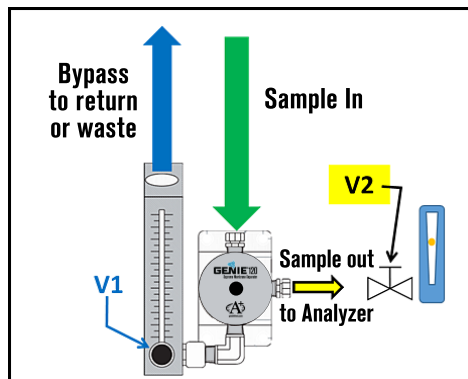

Figure 1
- ▶ The **Genie[®]** ports are labeled **inlet**, **outlet**, and **bypass**. Connect tubing from the sample stream to the **Genie[®] inlet port**. The **bypass port** must be facing downward for the **Genie[®]** to function properly (Figure 1).
- ▶ A means of indicating and adjusting outlet flow, such as a rotameter with a throttling valve (e.g., V2 in Figure 1), is usually required and is typically part of the analyzer package.
- ▶ A flow restrictor, typically a throttling valve (e.g., V1 in Figure 1), is usually required downstream of the bypass port to force flow through the membrane and outlet port, except in negative gauge pressure applications where gravity is the only motive for draining liquid from the Genie. A rotameter containing a valve may be installed at the **bypass port**, but only if the **inlet port** pressure is below the pressure rating. Do not plug the **bypass port** or leave it open to the atmosphere.
- ▶ First prevent flow through the Genie outlet port, usually by completely closing a downstream valve (V2 in Figure 1).
- ▶ Next minimize flow restriction downstream of the Genie bypass port, usually by fully opening the throttling valve downstream of the bypass port (V1 in Figure 1).
- ▶ Once flow has been established through the bypass port, slowly open the valve downstream of the outlet port (V2 in Figure 1) to establish the minimum required outlet flow. If the outlet flow is inadequate with V2 fully open, then gradually close V1 to force more flow through the outlet port.